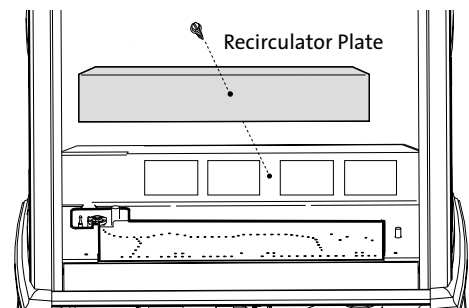

Figure 5. Remove Recirculator Plate.
1. For Any Vertically Terminated Stove - Fig. 5.
- Remove the Recirculator Plate from the back of the Burner Skirt as shown in fig. 5. Determine which Air Intake Restrictor plates should be used by following the guidelines on page 9.